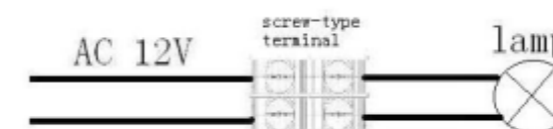

Figure 0.
c) Terminal blocks must meet the IEC60988-2-1 standard having the rated connecting capacity of 4,0mm² use of screw-type terminal at least 25A rated current, mounted on junction boxes inside. See Figure 0